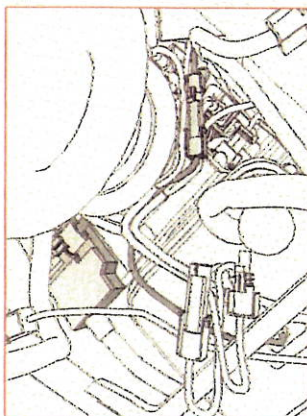
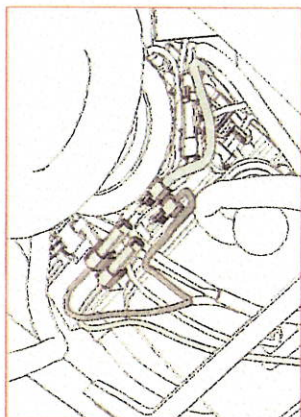

Figure 23
Figure 24
14. Place the harnesses back into their original position reconnecting the coil and engine temp sensor (Figure 23). Connect the TFI O2 leads to the stock connectors and cable tie (Figure 24). Leave the IAT sensor lead free. Cable tie the TFI harnesses to the frame. This will keep them off of the rocker box cover.